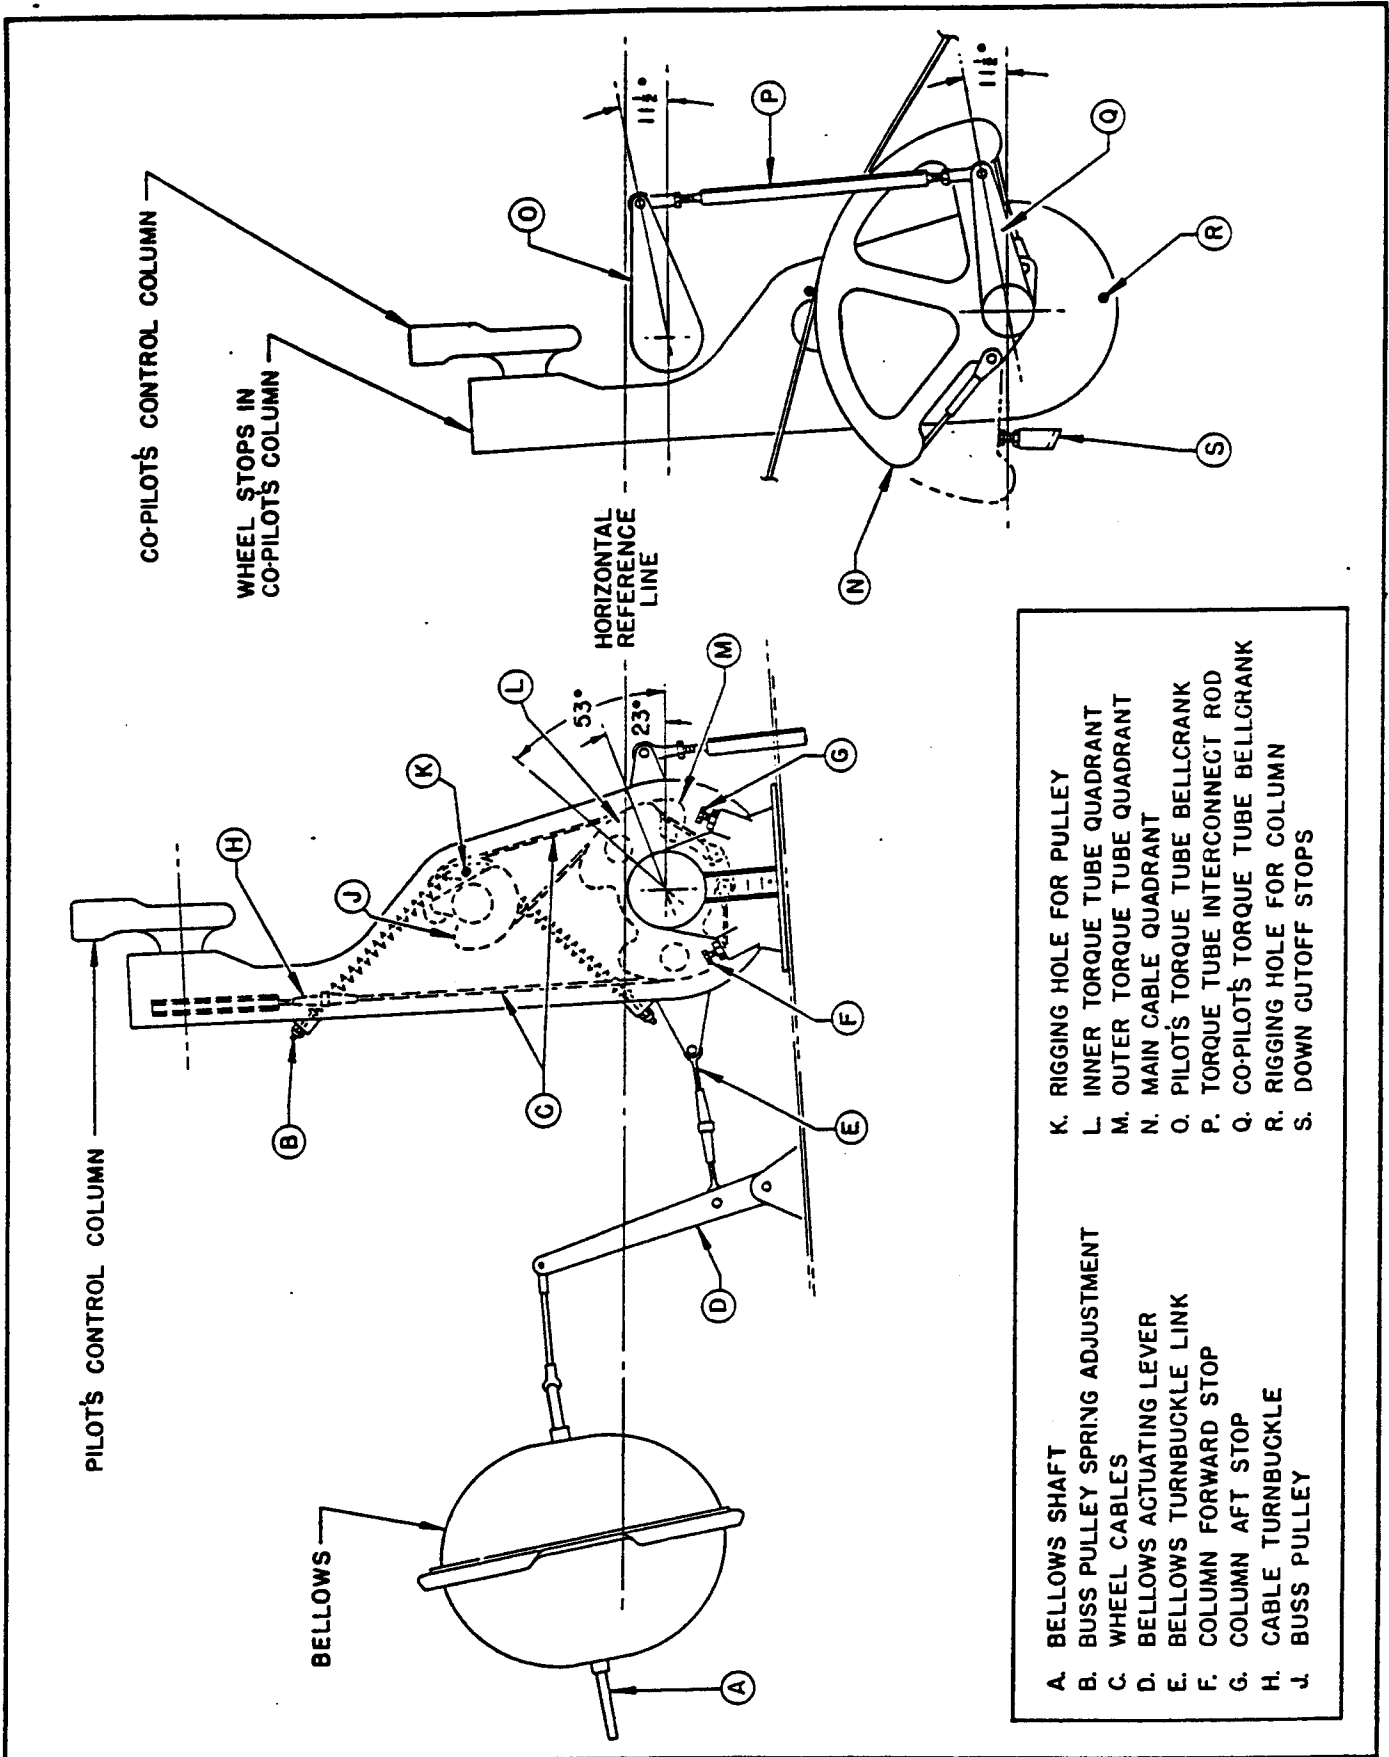

Figure 12. Control Column Adjustment
2. COPILOT'S CONTROL COLUMN. (See figure 12.)- Use a bubble protractor to determine settings of the column and torque tube quadrants in reference to the horizontal reference line of the airplane. A leveling plate is located in the forward inboard corner of number four bomb bay. By suspending a plumb bob from the fitting over the plate, the airplane's position may be determined.
3. PILOT'S CONTROL COLUMN. (See figure 12.)
b. Keep the control wheel in neutral. Adjust the forward control column stop (reference f, figure 12) to limit the elevon down travel to $15 \pm 1^\circ$.